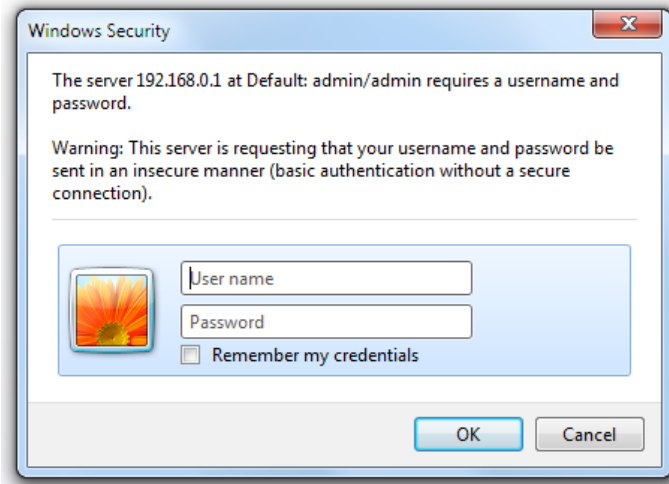

Figure 5-2, Router Home Page Login Screen
- 6) Open a browser session and type the router’s IP address into the address bar. You may then be prompted for a username and password as in figure 5-2, which in the case of the Sitecom Model 54g are simply both “admin” by default.